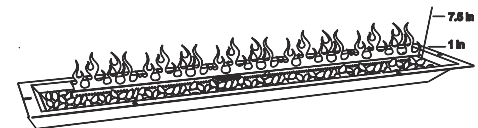

Figure 3
5. After completing the ignition, continue to turn the control knob counterclockwise to adjust the flame height to the desired condition (Figure 3).